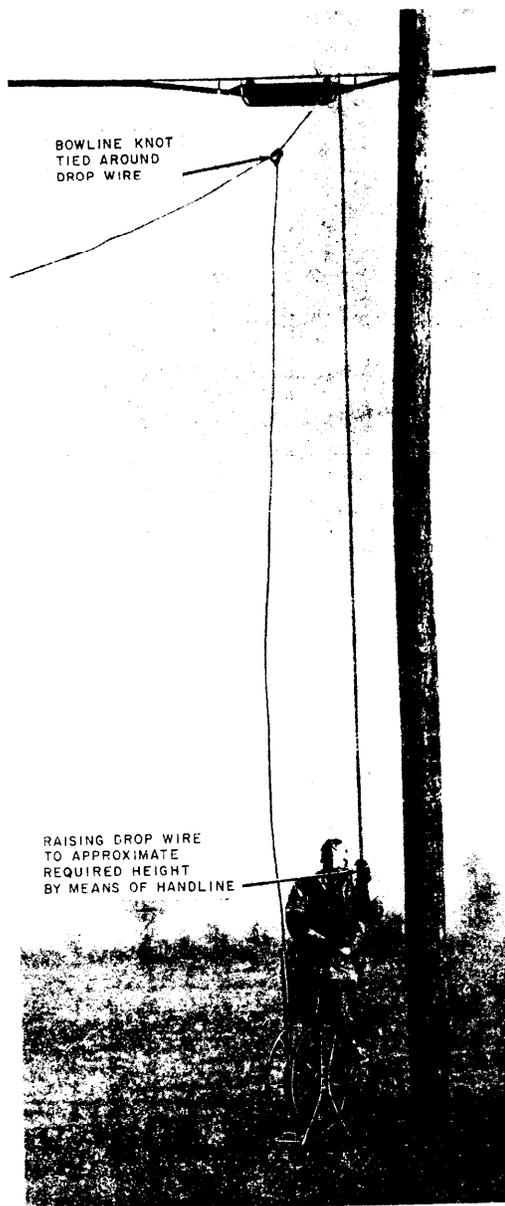

Fig. 15 - Raising Drop Wire -
- (g) After checking to make sure the drop wire reel is in a stable position and its brake is properly set, grasp the free end of the handline. When no vehicles or pedestrians are approaching, raise the drop wire as shown in Fig. 15. If it is necessary to remove excess slack from the span as the wire is being raised, pull the wire at the reel end to obtain desired slack. Wind excess length of wire on reel.